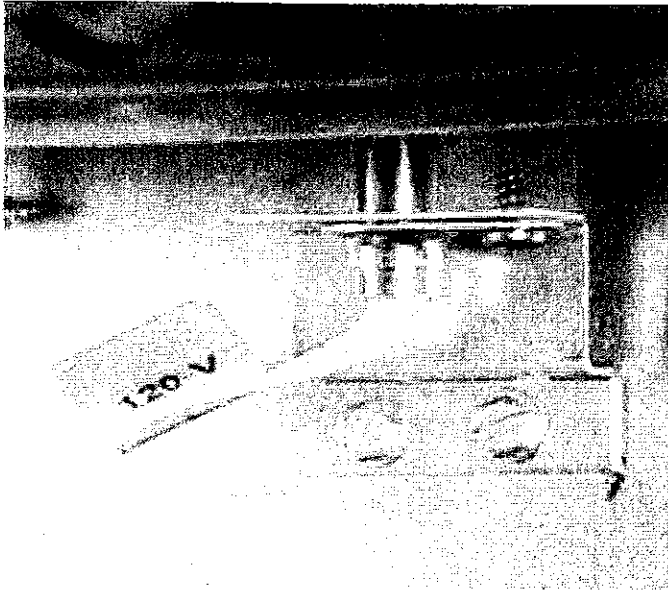

FIGURE 5: *Proper Installation of Igniter & Bracket*
7. Carefully install the new bracket and igniter using the same path as used in removing the old bracket. If only one hole is present on the vest panel, align that hole with the right hole on the igniter bracket (see Figure 5) and fasten using one of the existing mounting
bracket screws. Align the mounting bracket so it is level horizontally and drill a 7/64" hole into the vent panel through the left hole on the igniter bracket. Secure bracket using remaining existing mounting screw. The proper installation of the new igniter and bracket can be seen in Figure 5.